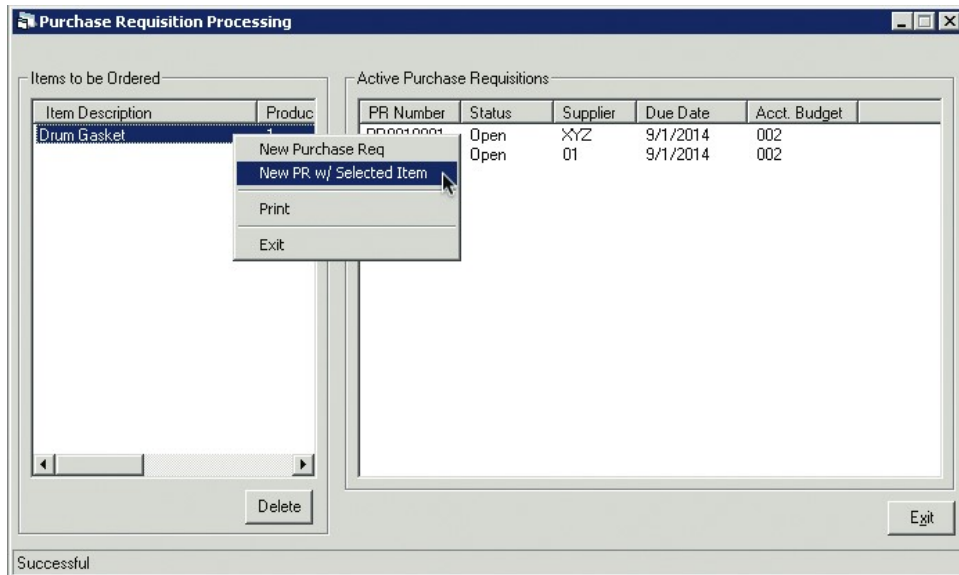

Figure 45. Purchase Requisition Processing.
2. Click **Purchasing Request Processing** on the *Purchasing EasyPath* menu to open the *Purchasing Requisition Processing* dialog (see Figure 45).
4. Right click the selected request and select **New PR w/ Selected Item** (see Figure 45) to open the *Edit Purchase Requisition* screen (see Figure 46).